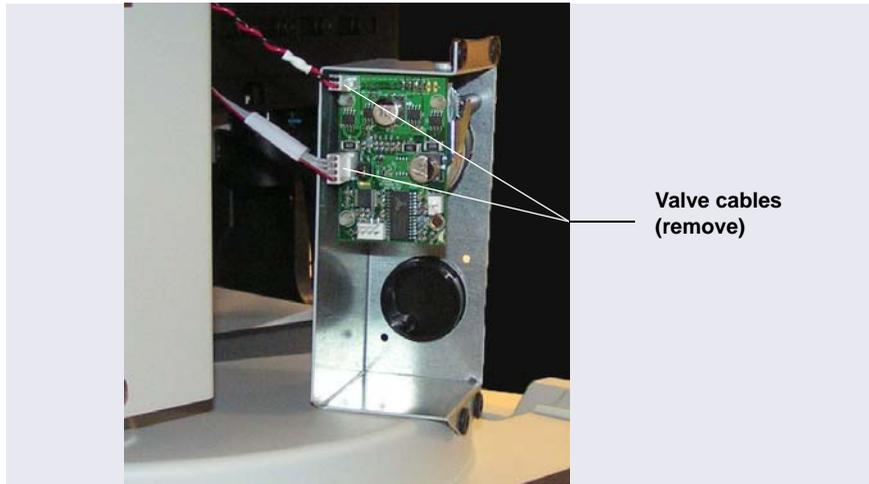

Figure C-11. *Valve Cables Connected to Valve Electronics Board*
6. Remove the valve with mounting bracket and disconnect the two cables connected to the valve electronics board on the rear of the valve (see Figure C-11).